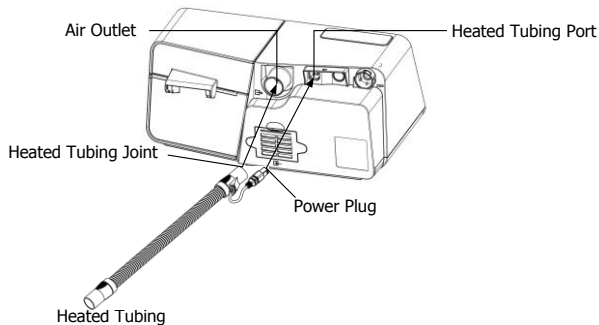

Fig. 11-9
(2) Connect the heated tubing joint to the air outlet of the device, and then insert the power plug into the heated tubing port on the back of the device, as shown in Fig. 11-9.